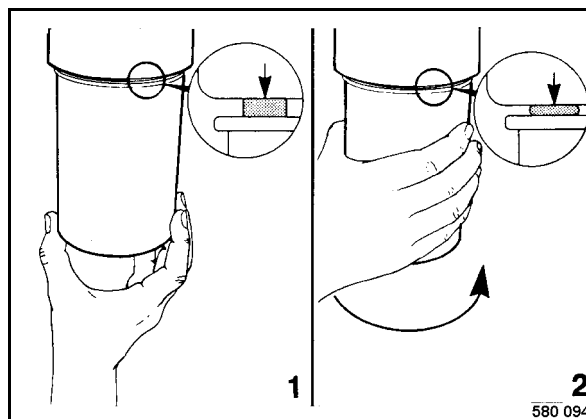

Fig. 81
- Turn the new filter cartridge on and tighten it hand tight (Fig. 81).